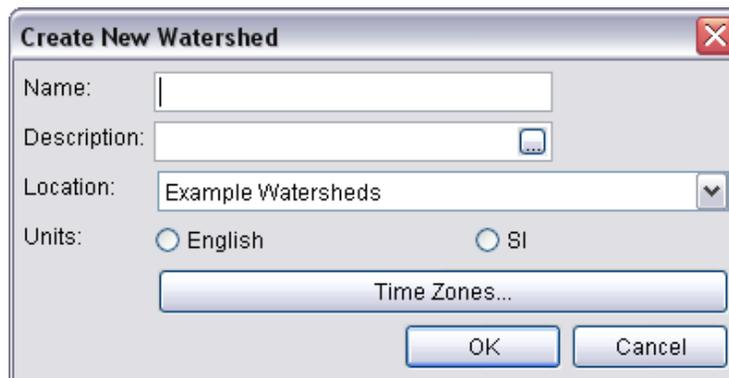

Figure 17: Dialog for creating a new HEC-ResPRM Watershed: The Watershed name, description, location (directory), unit system, and a time zone must be defined.
To create a watershed, in the **Watershed Setup Module**, choose **New Watershed** from **File** menu. The new watershed screen will appear, as illustrated in Figure 17. Enter a name for your watershed and a detailed description in the appropriate fields. *Name the Demo watershed “Blue River Demo.”* From the **Location** list, select where you want your watershed stored. [If the **Location** list is empty, press **Cancel**, and go back to page 2-6 to see how to add a Watershed Location.] Use the Units list to select the unit system that the watershed will use for entering, displaying, and storing data. The available unit systems are US Customary (English) and the International System of Units (SI). *The Demo watershed uses English units.* Then select a Time Zone. The watershed time zone is always specified as some offset from GMT, which does not recognize Daylight Savings Time. This feature will not affect your HEC-ResPRM model, so you may choose any Time Zone for the Demo. It is used for modeling with other HEC software. When you have completed all fields, press OK.